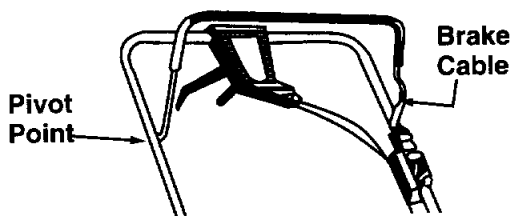

Figure 14.
**Blade Control.** Lubricate the pivot points on the blade control handle and the brake cable at least once a season with light oil. See figure 14. The blade control must operate freely in both directions.